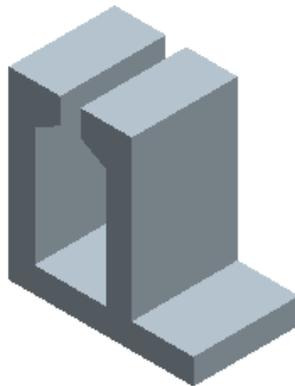
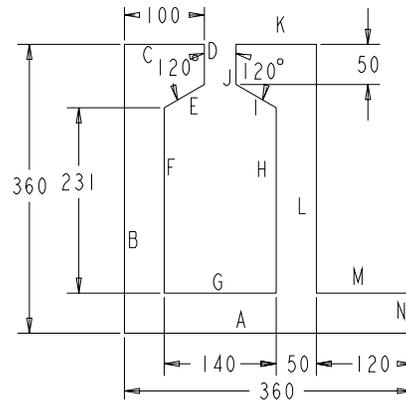

Figure 2-38 Model for Tutorial 2
Figure 2-39 Sketch of the model
In this tutorial, you will draw the sketch for the model shown in Figure 2-38. The sketch is shown in Figure 2-39. For your reference, all entities in the sketch are labeled alphabetically. **(Expected time: 30 min)**
- b. Draw the sketch, refer to Figure 2-39.
The sketch in Figure 2-38 consists of only lines. For understanding, all the lines in the sketch are labeled alphabetically.